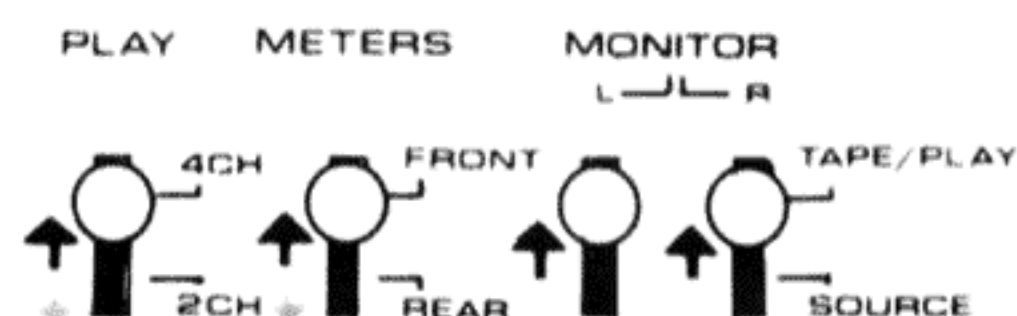

Fig. 20
4. Set the PLAY switch to 4-channel or 2-channel operation (Fig. 20). If the tape contains a 4-channel recording, set the switch at 4CH; if it contains a 2-channel stereo recording, at 2CH. If a 2-channel recorded tape is played over a 4-channel amplifier/speaker system with the PLAY switch set at 4CH, the reverse side of the tape (i.e. the other two tracks) will be heard in reverse from the rear speakers.
5. Set the METERS switch at FRONT (Fig. 20). In position REAR, the LEVEL meters indicate the signal level of the rear channels.
6. Set both MONITOR switches at position TAPE/PLAY. Playback of the signal from recorded tape is not possible if these switches are at SOURCE. See Fig. 20.